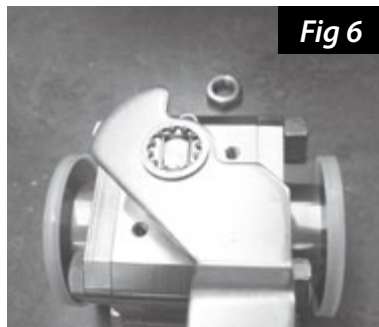
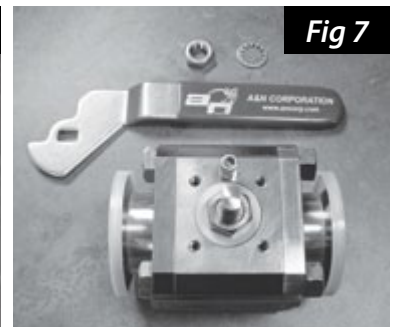

Fig 6
Fig 7
3. Remove the lock washer and handle by lifting the handle off of the valve stem (Fig 6). Set these parts aside for later use (Fig 7). Be careful not to lose the lock washer. **Note: Valves configured with a handle locking kit will have an extra lock washer under the handle. Keep it for later use.**